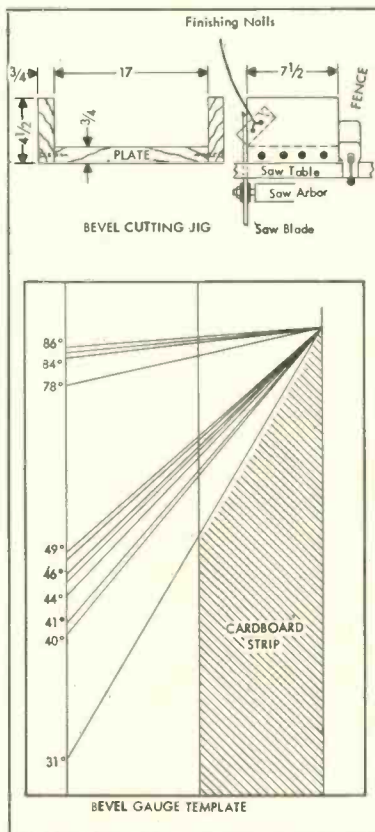
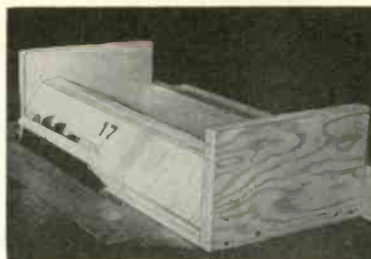
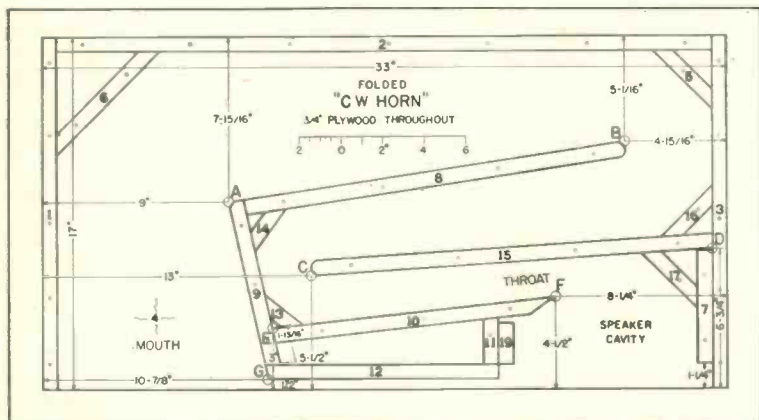

Fig. 6. (A) Layout of the jig designed to facilitate cutting the various bevels. (B) Bevel-gauge template for the angles used.
Fig. 7. Photograph of the jig shown in Fig. 6.
Fig. 8. Assembly of the horn, with pieces numbered in accordance with Fig. 5. Layout dimensions are shown.
A number of the pieces must be beveled with one or more of the angles indicated at (A) in Fig. 6. A simple template which may be used to mark the pieces or set a machine can be provided by using a strip of cardboard 6 to 8 in. long and $\frac{3}{4}$ in. wide, one end of which can be marked by use of the bevel gauge template, Fig. 8, and then the cardboard cut off at the required angle.
The bevel cutting jig of Fig. 6 is pictured in Fig. 7. It is a proven device for cutting the bevels accurately and safely with a power saw. It is especially useful with the bevels varying from 31 to 49 deg. Those bevels which vary from
Lay the bottom side (4) on the bench, smooth surface down. Draw on its upper "rough" surface the data shown in Fig. 8 with the exception of the fillets 5, 6, 13, 14, 16, and 17. Locate accurately points A, B, C, D, E, F and G. Draw the lines AB, CD, EF and AG. These lines control the positions of parts 8 through 14 and 15 through 17. Spot the position of the holes to be drilled for the screws or nails which are to hold the box together.
Builders may find it desirable to make a complete full scale drawing of Fig. 8 on tracing paper or brown wrapping paper and by means of carbon paper use it to transfer pertinent data to the top of part 4.
Since two frequencies are involved, a complex (nonsinusoidal) wave is produced, and the indication of an ordinary vacuum tube voltmeter is, therefore, not valid in determining the power level by the customary formula $P = E^2/R$. Furthermore, since one wave rides the other, the peak value of the two waves may reach a value equal to the algebraic sum of the individual waves, with the result that overload can occur for two frequencies when each is only one-half the amplitude required for overload by a single frequency. (See Fig. 8) Since each wave is only one-half the maximum amplitude, it can produce only one-quarter the power of a single maximum-amplitude wave. The power available from two such waves without any possibility of overload is, therefore, only one-half the power available from a single-frequency wave. The curves for the CCIF intermodulation tests are calibrated in terms of volts as read on an audio-frequency